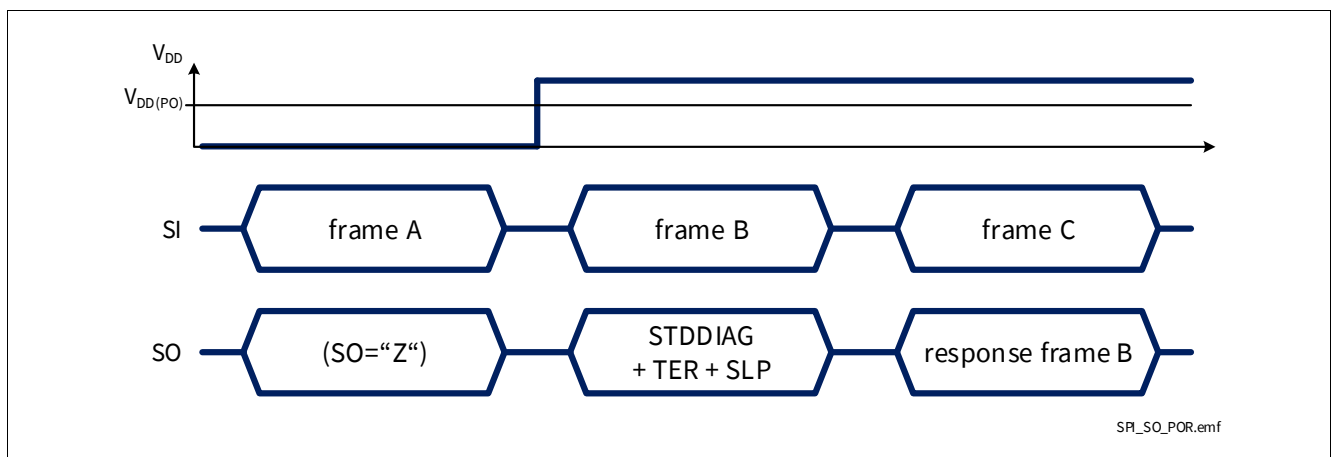

Figure 44 SPI response after coming out of Power-On reset at V_{DD}
- When BTS71040-4ESE digital supply comes out of Power-On reset condition, as shown in **Figure 44**